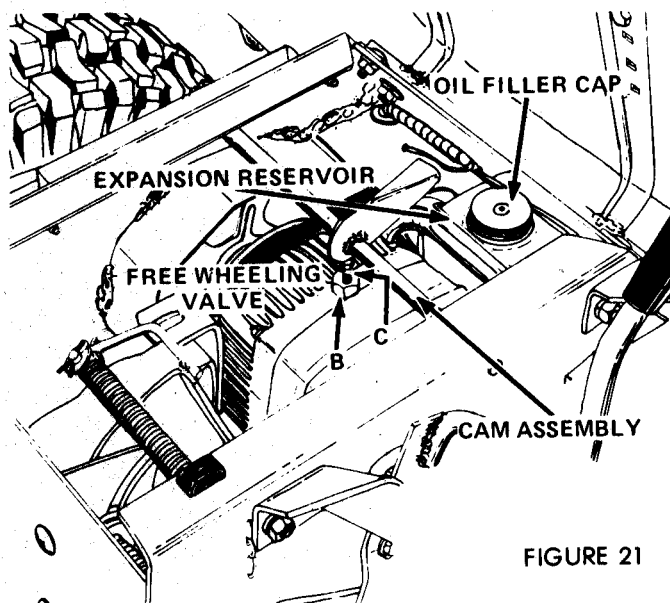

FIGURE 21
1. Thoroughly clean all dust, dirt and grime from the free-wheeling valve, the oil filler cap and surrounding areas, Figure 21.
3. Loosen nut B first and then valve actuating rod C, Figure 21, and remove the rod. Be extremely careful not to allow dirt to enter the transmission.
7. Replace free-wheeling valve actuating rod C and tighten nut B, Figure 21, to 30 inch-pounds. Tighten both parts carefully to prevent the small rubber o-rings inside the cap from becoming damaged.